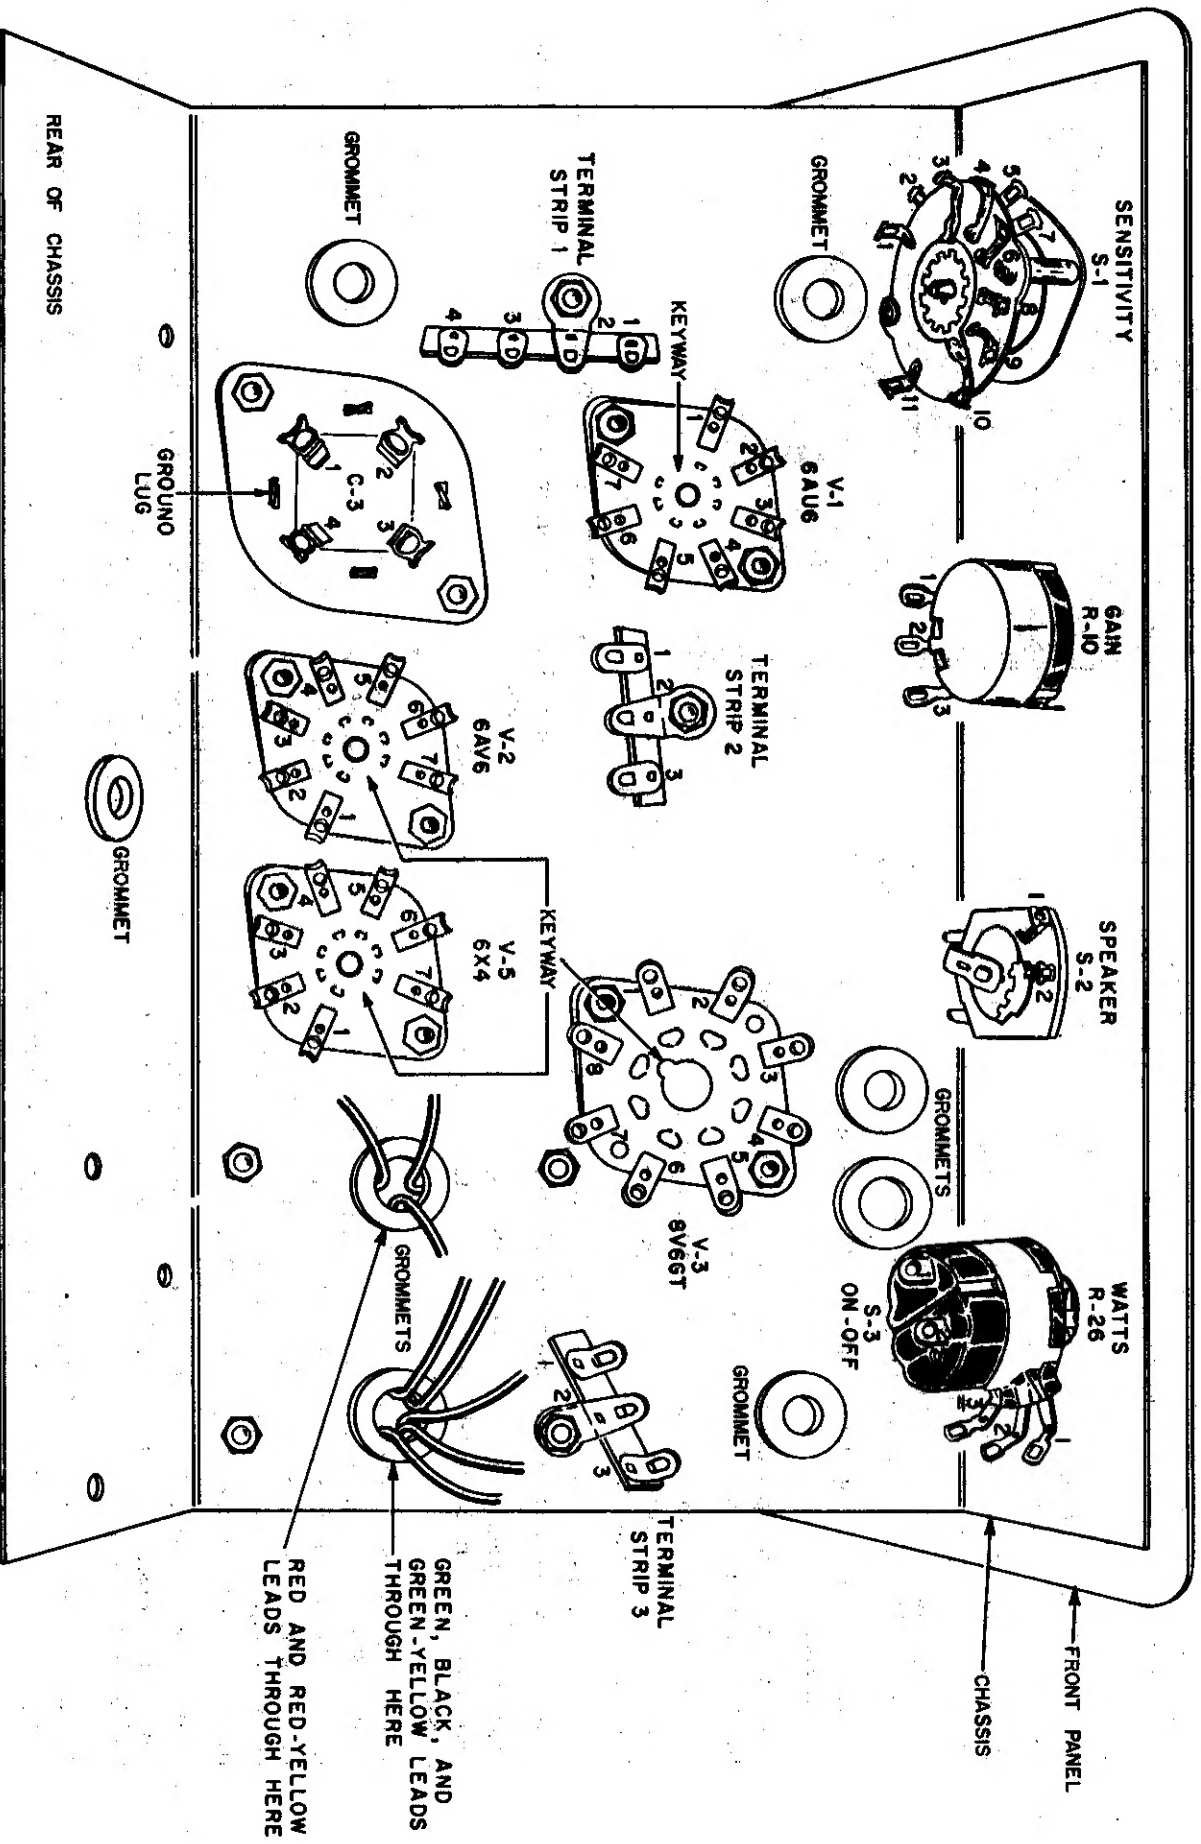

FIGURE 1. HOW TO MOUNT PARTS INSIDE THE CHASSIS
SEE FIGURE 1.
(✓) From the inside of the chassis, mount two of the small 7-pin wafer-type sockets for V-2 and V-5, as shown in Figure 1. The keyway, or wide space between two of the pins, must be toward the upper right. Use two of the small machine screws and nuts to mount each socket.
- (✓) From the inside of the chassis, mount the remaining 7-pin socket for V-1, as shown in Figure 1. The keyway must be toward the lower left. Use two small machine screws and nuts to mount the socket.
- (✓) From the inside of the chassis, mount the large 8-pin socket for V-3, as shown in Figure 1. The keyway, the notch in the large center hole, must be toward the lower left.
- (✓) Mount the Speaker Switch (S-2) in the hole next to R-10. Use the same method that was used to mount the two previous controls. Position the terminals as shown in Figure 1.
- (✓) Mount T-2 in position with four machine screws and nuts. From the inside of the chassis, mount terminal strip 3 (TS-3), a 3-terminal strip, on the right front mounting screw. Position the terminal strip as shown in Figure 1.